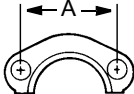

**FIGURE 2-10**
1. Lubricate and install the o-ring in the shoulder groove (see Figure 2-10). Align the shoulder with the port and assemble the flanges over the shoulder.
2. Snug bolts in a diagonal manner (Figure 2-10) to 1/3 of torque given in Table 2-7.